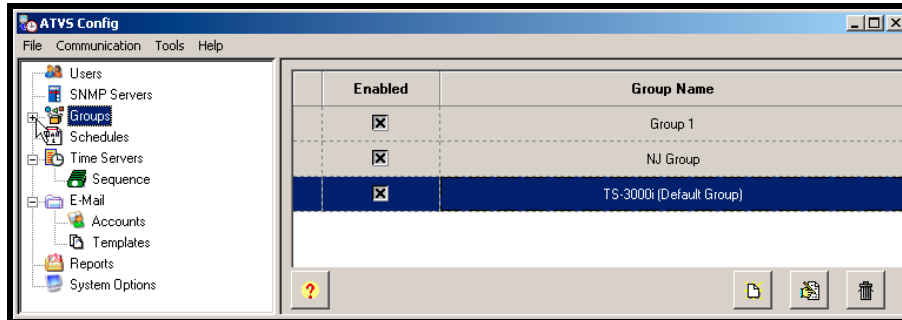
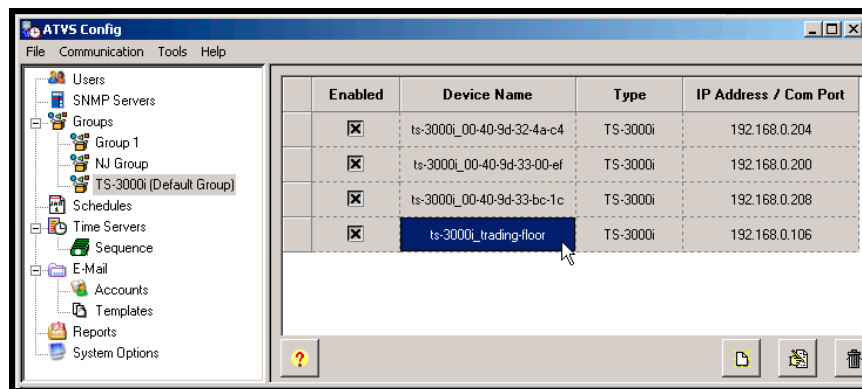

Figure 6-7: ATVS Config Main View
Figure 6-8: Expanded Groups List with TS-3000i Default Group
Step 7. Close the Import Devices window and you will be back to the ATVS Config default main view (see *Figure 6-7*). Click on the Groups icon in the tree view and any created groups will appear in a list on the right. Next, expand the Groups list by clicking in the tree view on the +. All previously defined groups will appear in the left-hand tree view (see *Figure 6-8*).
Step 8. Select the **TS-3000i Default Group** from the expanded list by clicking on it in the tree view to display a list of devices in that group on the right-hand side (see *Figure 6-8*).